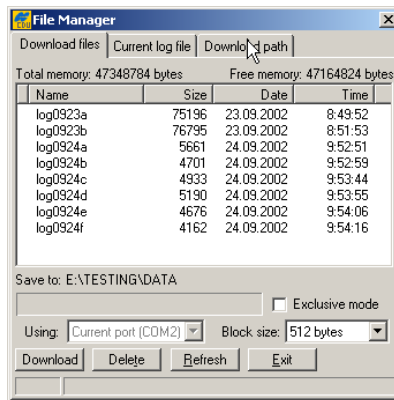

Figure 4-3. Find Files to Download
- Click **File ► File Manager**, then click the **Download path** tab on the **File Manager** dialog box (Figure 4-3).